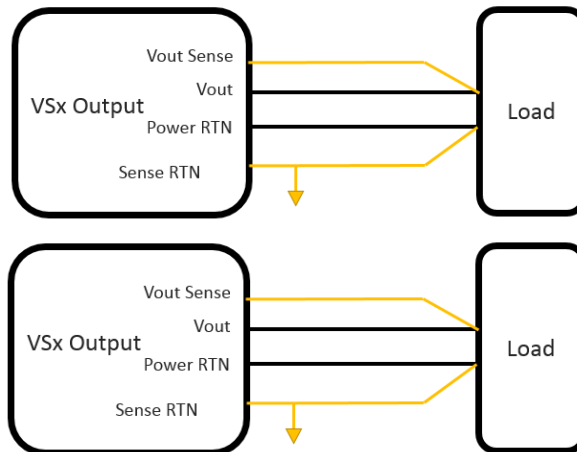

Figure 1: M4390 Sense line connection
*Sense Lines* are provided for VS1, VS2 and VS3 output to compensate line voltage drop. *Sense Lines* proper connection is shown in Figure 1.